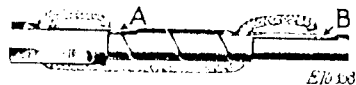

Fig. 22
Wick 125056 is threaded in hinge pin 132899, as shown in Fig. 22, one end being positioned in the hole (A) at the left and the other in the hole (B) at the right.